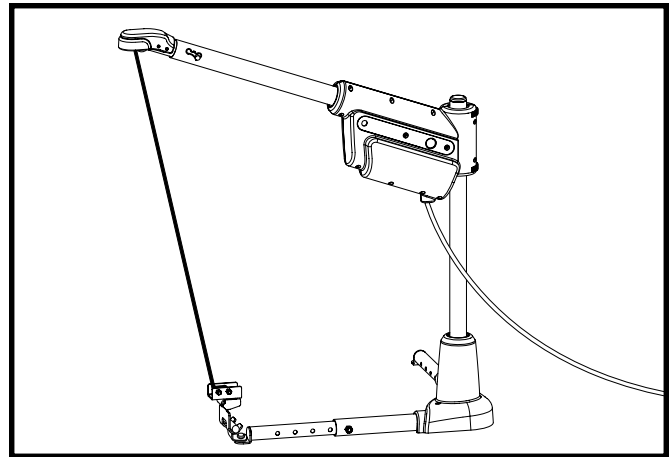

Figure 18. Securing The Boom-arm
11. If installed in a van or SUV, disconnect the hook from the docking device and attach it to the T-bar on the base extension. (This prevents the boom-arm from swinging freely while the motor vehicle is in motion.) Operate the lift in the upward direction until the strap is snug. **See figure 18.**